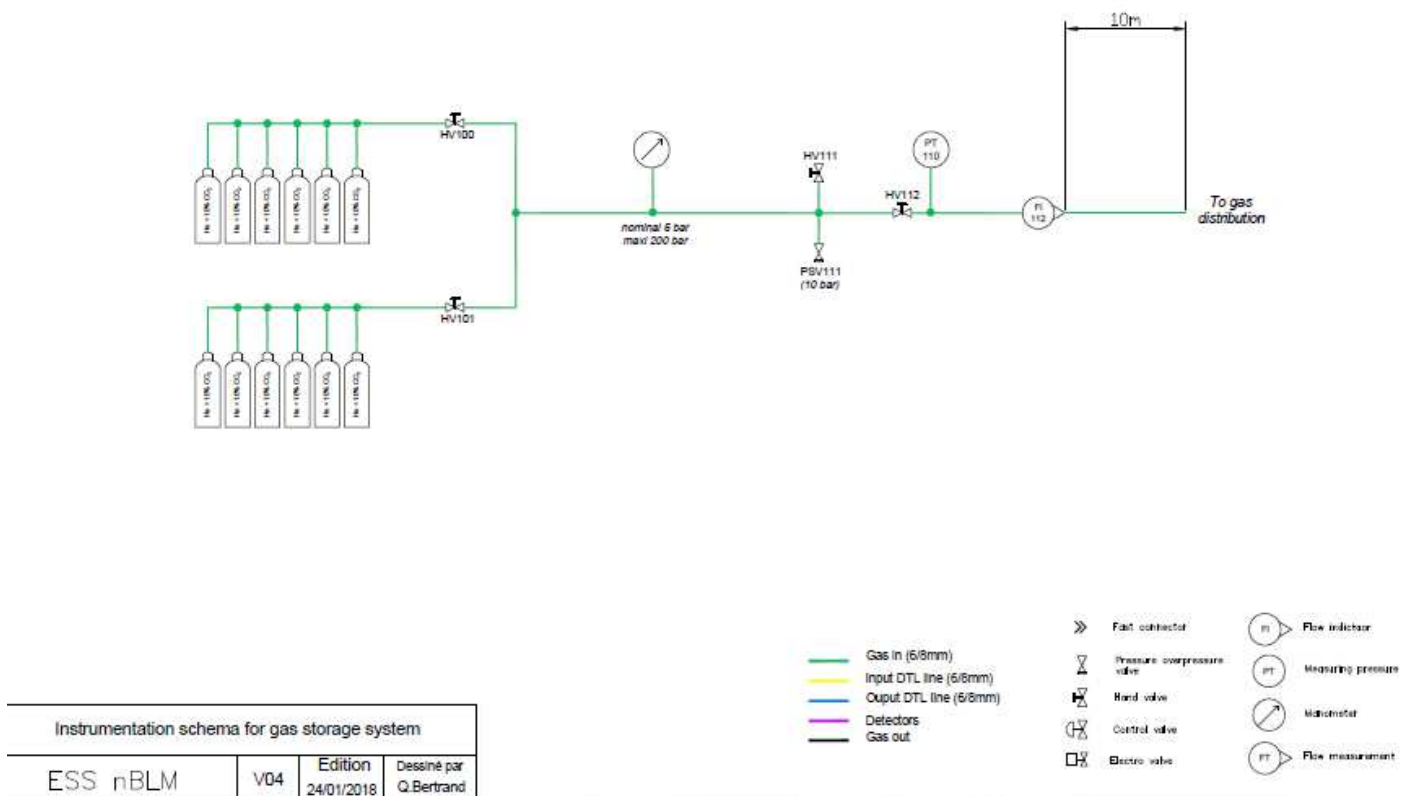

Figure 6: Gas storage system for ESS nBLM (GS) P&ID
3.1. Lines From bottles storage area to FEB-090 (see P&ID in Figure 6)